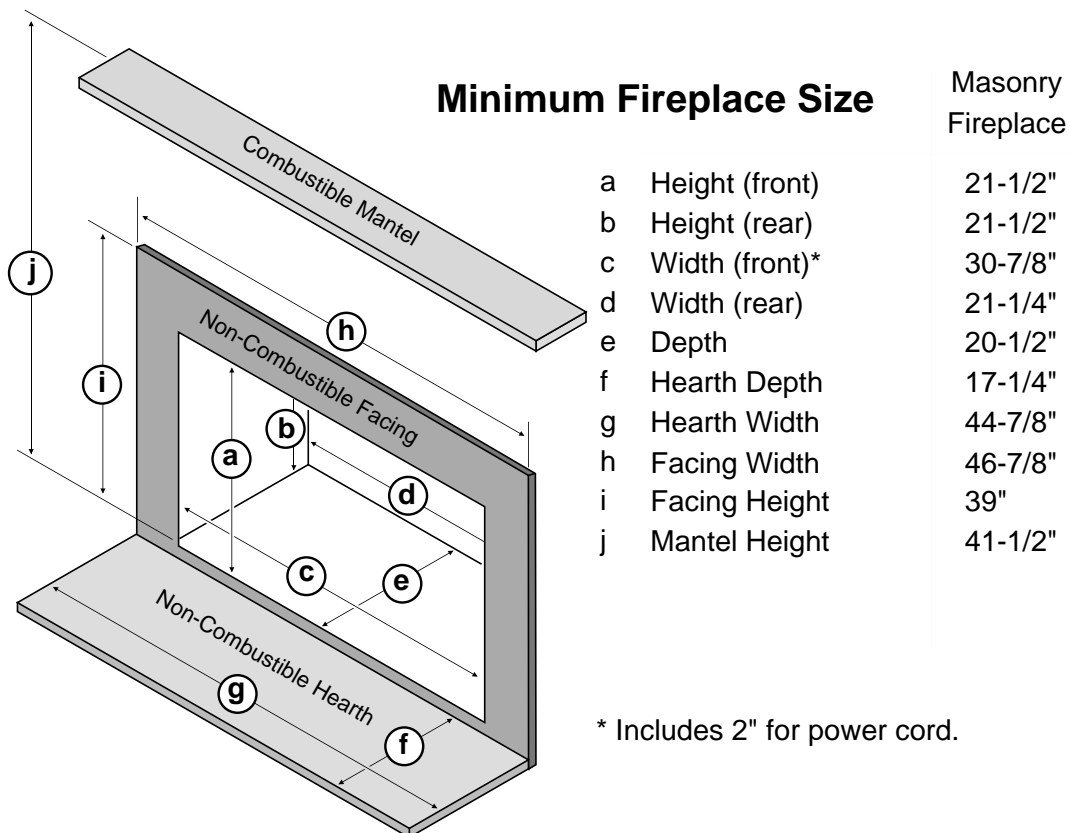

Figure 2
- Figure 2 shows the minimum size requirements for the type of fireplace used.